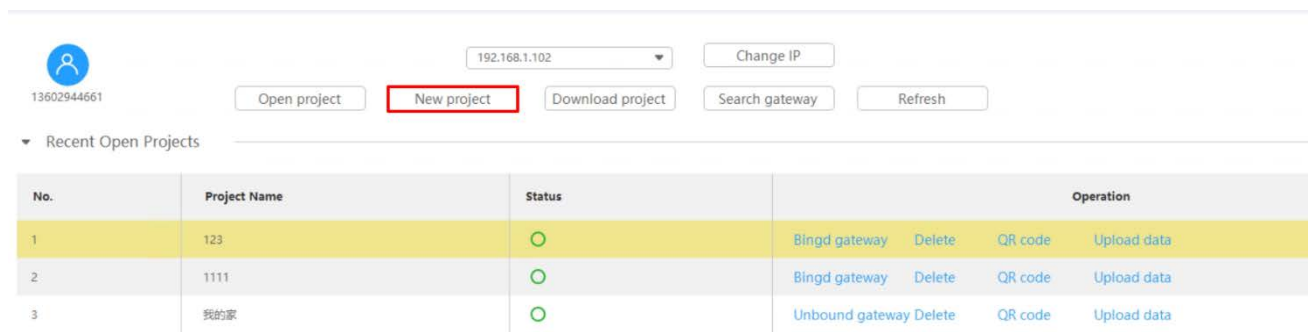

Figure 2-3 Create New Project
- As the example shown in Figure 2-3, click “New Project” → Set the project name as “123” → Click “Create”.